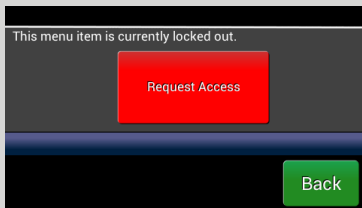

Figure 4 - REQUEST ACCESS SCREEN
3. **CALIBRATION MENU and SERVICE ACCESS** - When selecting either of these menus, a screen (**Fig. 4**) requiring permission-based access will display. Touch Request Access and enter **Code 6150**. You will see the Access Enabled screen and will be directed back to the menu where the Calibration and Service Access will now be available for selection.